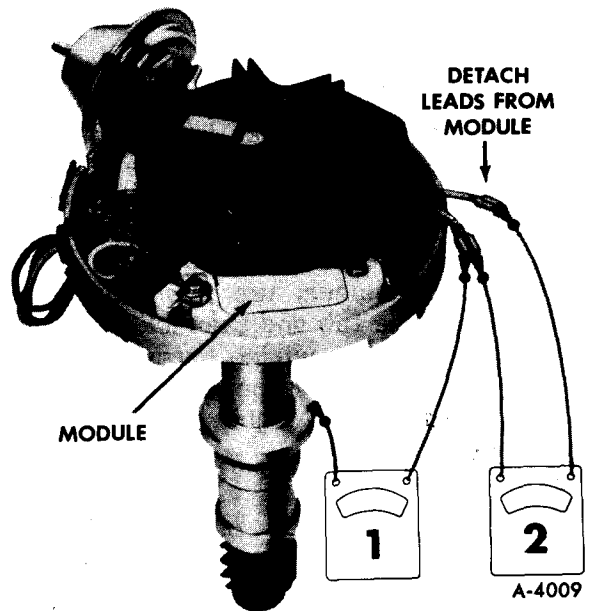

Figure 16—Ohmmeter Check of Pick-Up Coil
1. In order to test the pick-up coil for an open, connect an ohmmeter as shown in figure 16, step 1. Use the ohmmeter middle scale. If the ohmmeter reads less than 500 ohms or
2. If the pick-up coil does not have an open, check the pick-up coil for ground as shown in figure 16, step 2. If the reading on the high scale is infinite, the pick-up coil is good.